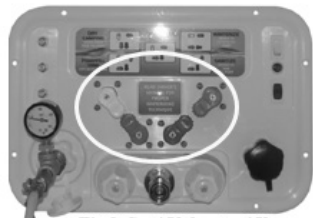

Fig 2: Set 4 Valves to 45°
12. After water is drained from the lines, turn the Red, Blue, Green and White valves so they are at 45° (**Fig 2**)
13. Attach a blowout plug to the City Water Inlet on the utility center panel (**Fig 2**).
14. Attach the air hose to the blowout plug. Set the compressor to **30 PSI**. Set the four color valves to 45° angle (**Fig 2**). **Red, Blue, Green & White valves must be set at 45° before applying air pressure 30 PSI Max.**